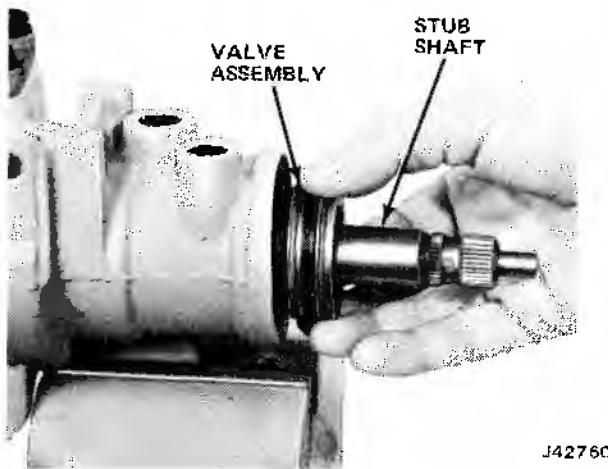

Fig. 11-79 Installing Valve Assembly in Housing
(7) Install the assembled valve and worm in the housing as an integral unit. Align the valve body drive pin in the worm with the narrow pin slot on the valve body. Insert the valve assembly into the gear housing as shown in figure 11-79.